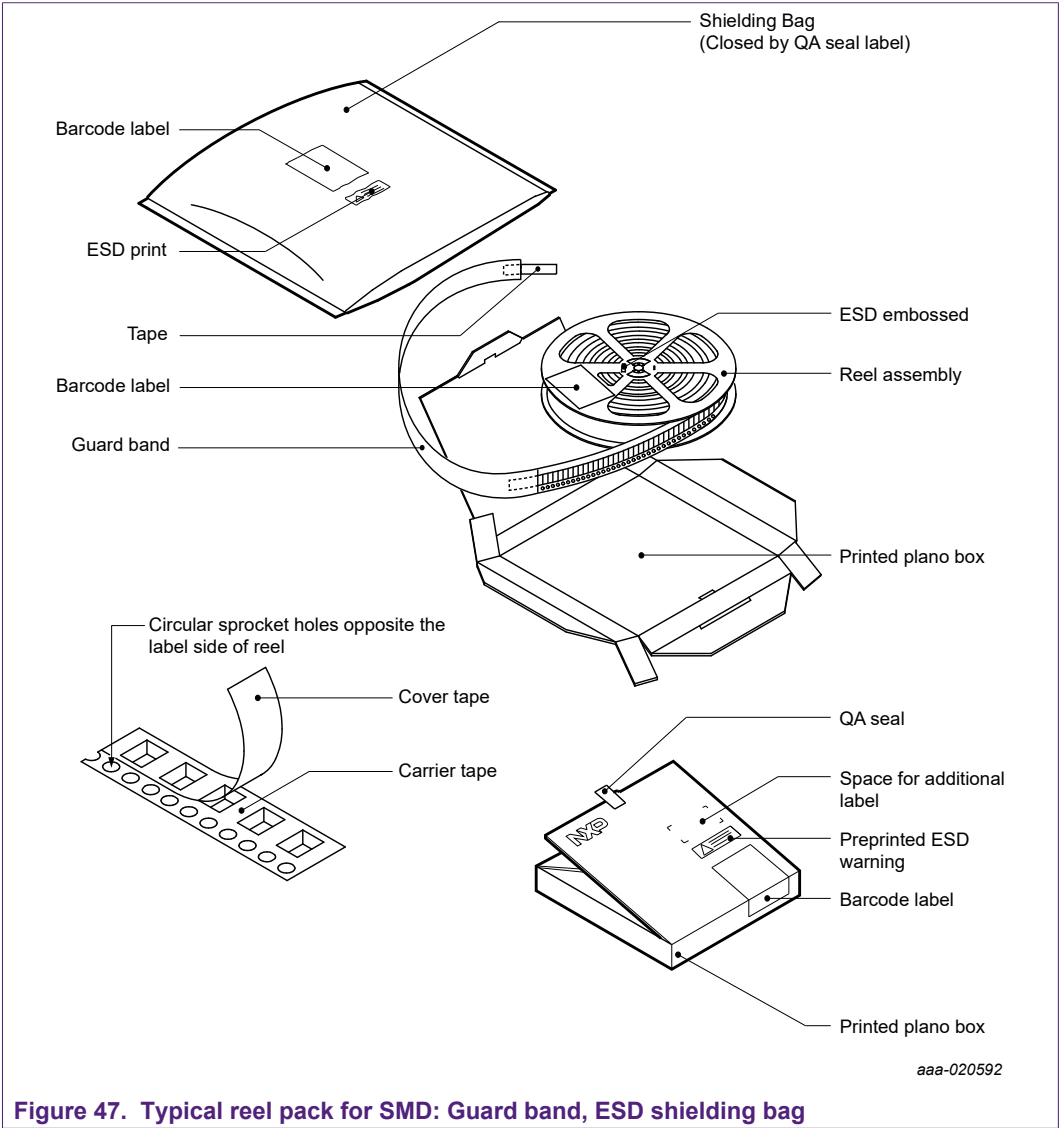

Figure 47. Typical reel pack for SMD: Guard band, ESD shielding bag
- NXP tape and reel carriers are in accordance with ANSI/EIA-481 (Figure 47).